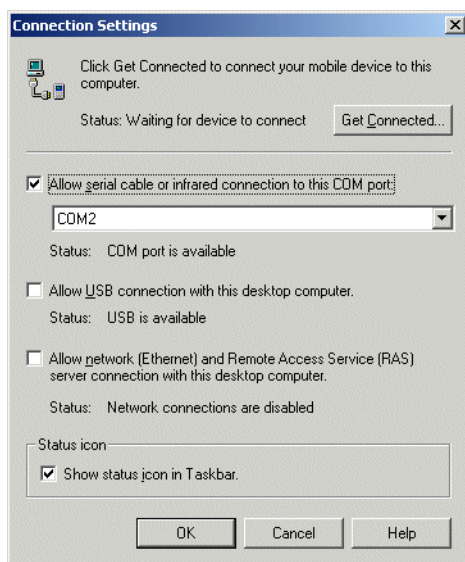

Figure 2-14 Serial Connection Settings
12. In the ActiveSync window, select **File - Connection Settings** and ensure the selections shown in Figure 2-14 are made. (Select the appropriate COM port for the host computer.)